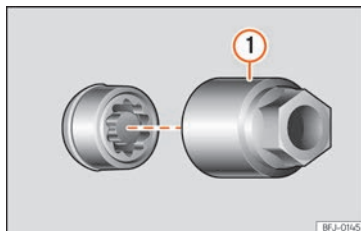

**Fig. 44** Anti-theft wheel bolt with cap and adapter.
- Insert the special adapter »» Fig. 44 ① (vehicle tools »» page 41) onto the anti-theft wheel bolt and push it on as far as it will go.